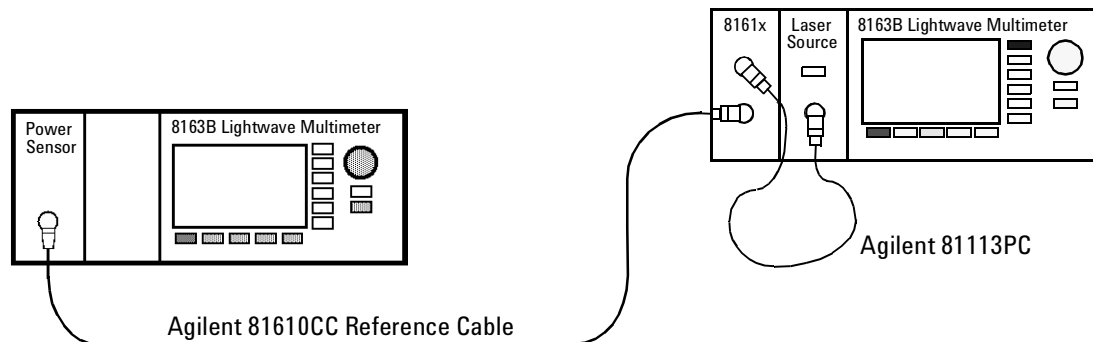

Figure 100 Power Transmitted through the Reference Cable - External Source
- 1 Making sure all the connectors are clean, set up the instrument as shown in Figure 100 if you are using an External Source.